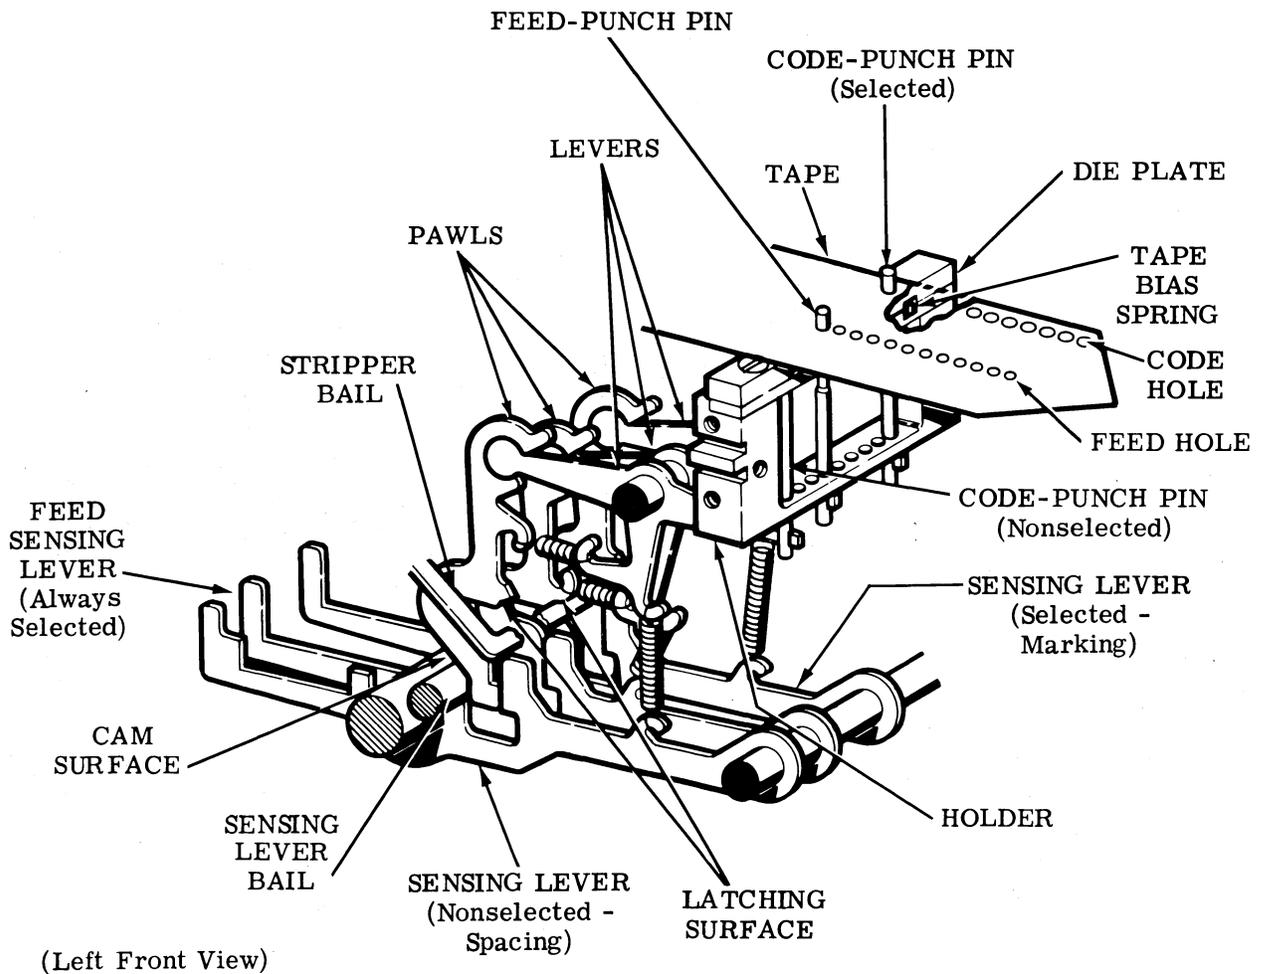

Figure 7 - Tape Punch Mechanism
4.07 The sensing lever positioning is transferred, through a pawl and lever (Figure 7), to an associated code-punch pin.
4.17 The punch block mechanism consists of code-punch pins, a feed-punch pin, holder, die plate, and a tape bias spring (Figure 7). The code-punch pin and feed-punch pin are oriented to the die plate through slots which engage levers for their respective code level. The tape bias spring always biases the tape against one edge of the holder. This results in the code hole and feed hole relation to the tape edge to be held constant.